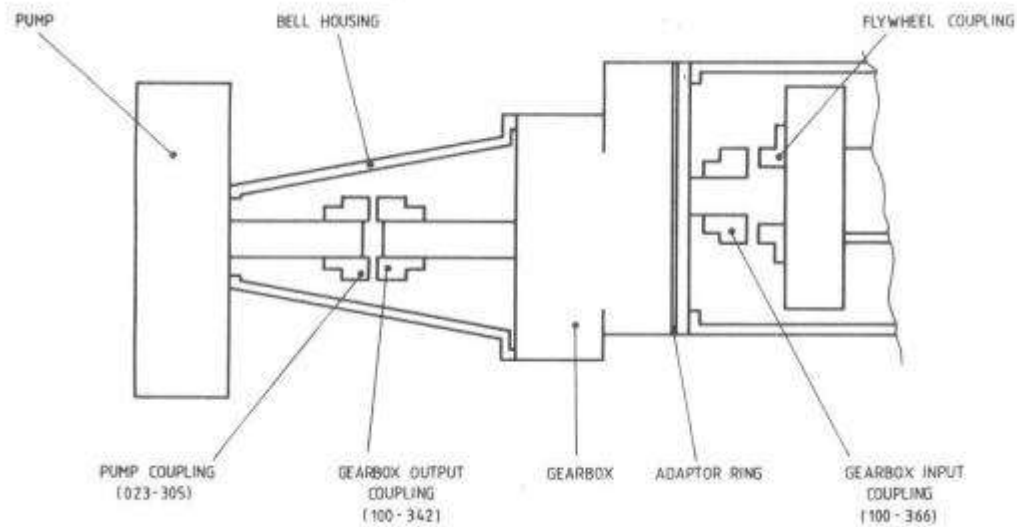

Fig 2.2 Pump Installation – Prime Mover/Gearbox/Pump Coupling Arrangements
9. For details of the prime mover/gearbox/pump coupling arrangements for diesel-driven and electrically-driven pumps, refer to Fig 2.2 and Tables 2.1 to 2.5.